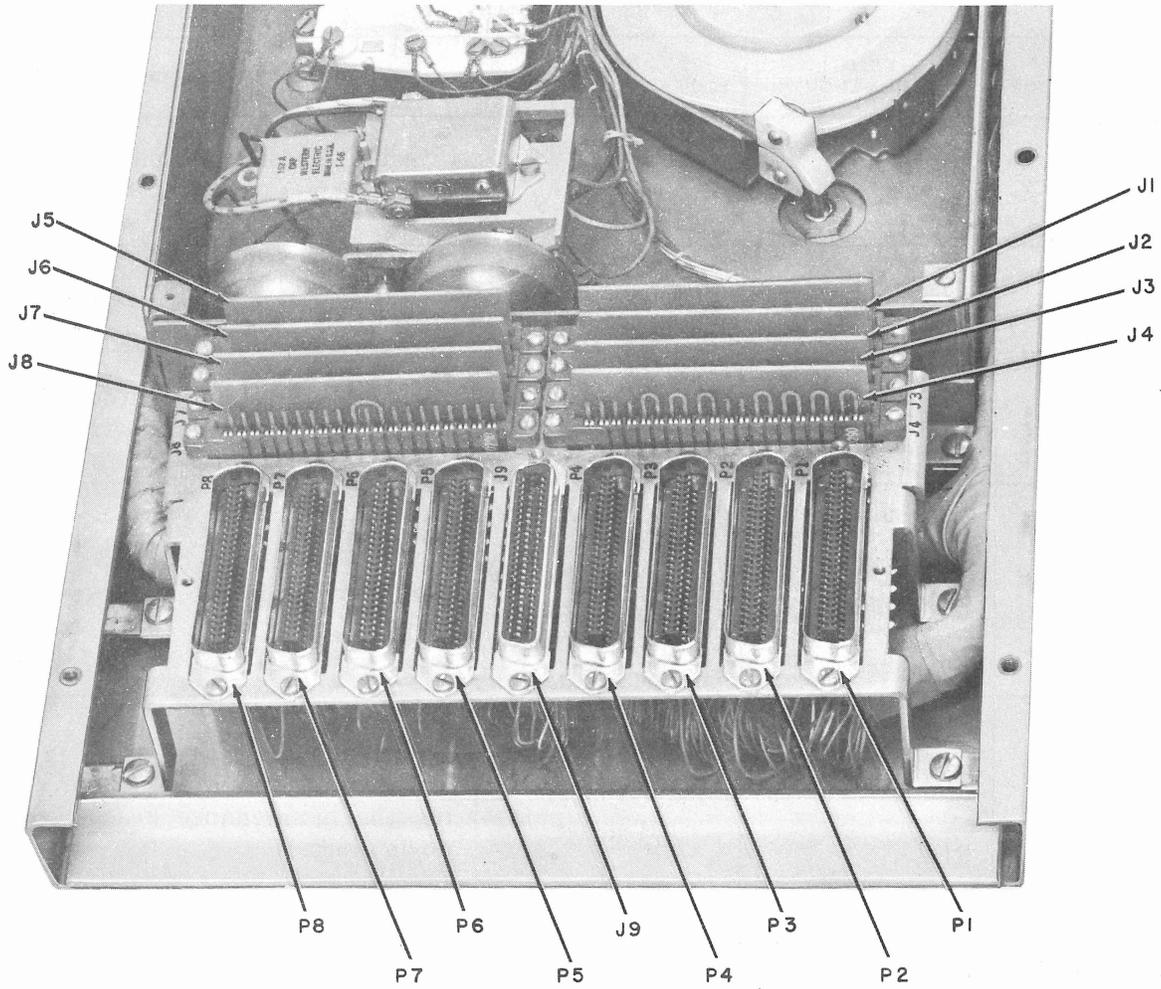
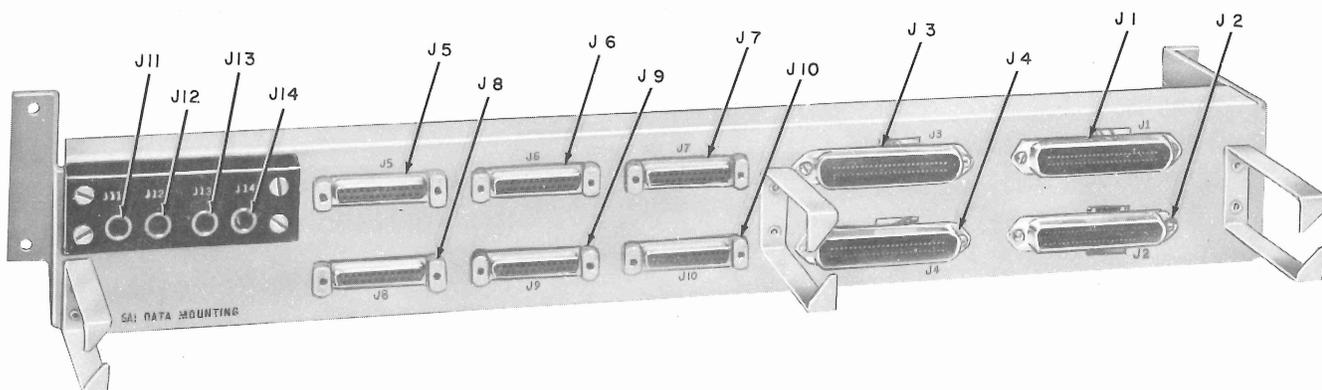

Fig. 6—Data Auxiliary Set 804L-Type, Identification of Connectors
Fig. 9—6A-Type Data Mounting, Identification of Connectors
3.05 Table B shows the interconnections between Data Auxiliary Set 804L-type, the 4A-type Data Mounting, and a 5A-type and/or 6A-type Data Mounting. When more than 48 data sets are required, additional 804L's and 4A's are provided. The interconnection of these additional units and connections providing for a remote console (when desired) are also indicated by Table B. Fig. 6 through Fig. 9 show the connectors referred to in the table.